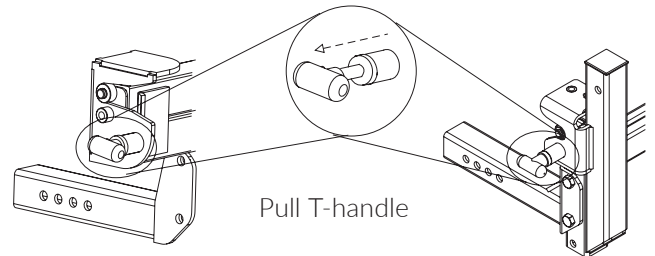

Figure 3-10
2. Pull the T-handle. Grasp the lift firmly and swing it out, away from the vehicle. See Figure 3-10